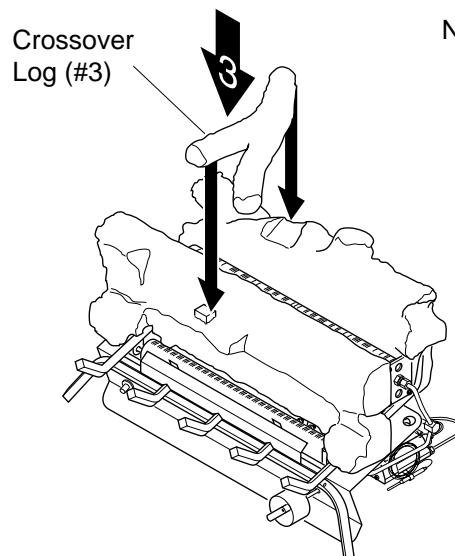

Figure 19 - Installing Crossover Log
3. Place crossover log (#3) into place (see Figure 19). Be sure to place back of crossover log into notch on left side of rear log. The indentation under front right fork of crossover log must rest on rectangular knob of front log.